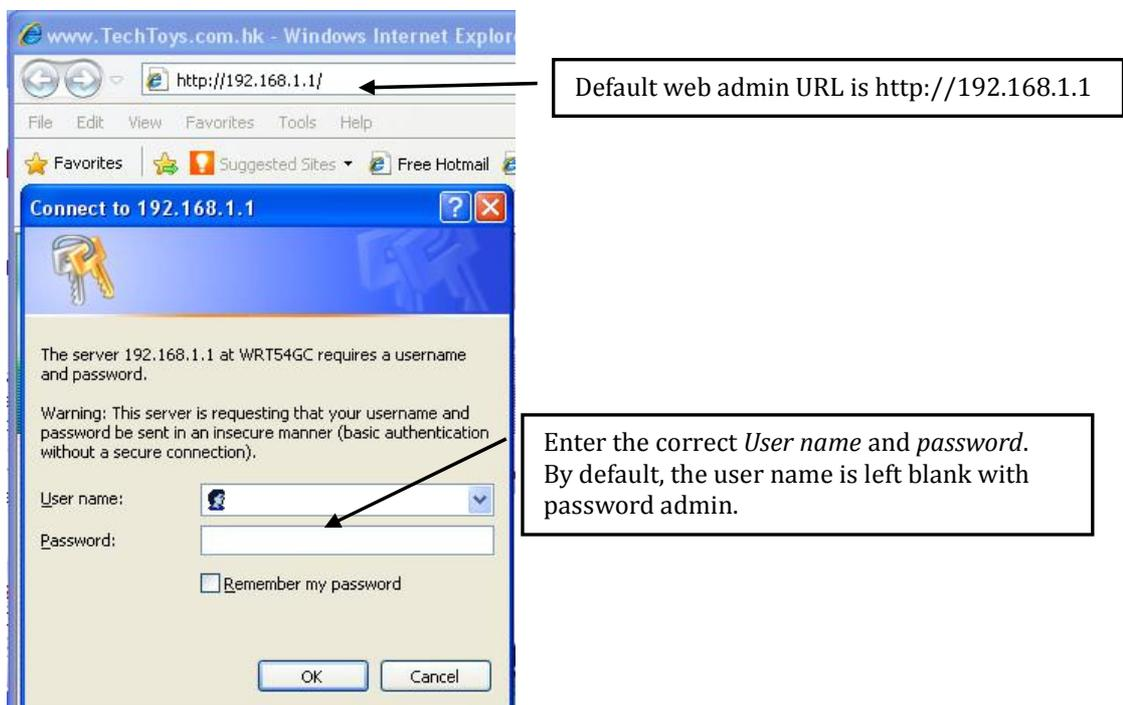

Figure 3-5. Built-in webserver on Linksys WRT54GC
- We need to set our wireless router for no security to suit the firmware. Else, we will have to change the firmware to suit the router. It is more easy to do the first in this demo. It is a Linksys WRT54GC router in our office. The Linksys, along with many other popular router brands, uses a built-in webserver on the router to administer the network for both wired and wireless configurations. Please consult the documentation that came with your router for further information on configuration and setup. To gain access to this web page, there is a default Linksys web admin URL. Input the *User name* and *Password* (Figure 3-5). By default, the user name is left blank, and the password is admin. In our case, the *User name* is *admin* with a dedicated password. Again, please remember what you or your network administrator has done for these fields.